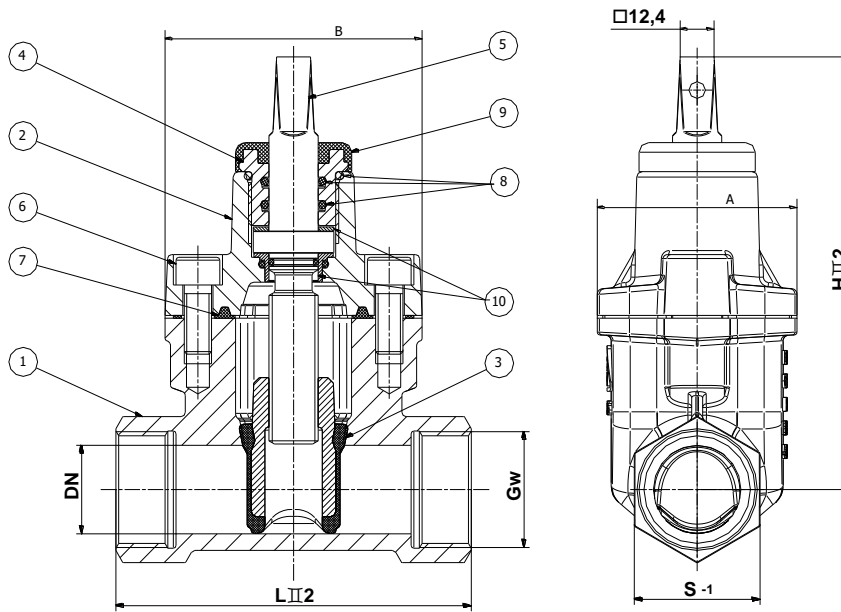

Fig. 1 – The construction of gate valve with threaded end
1.3. Construction and principle of operation (Fig.1, Tab.2)
The main parts of the gate valve with threaded end are shown on the fig.1.
- The gate valves with threaded end type UG-2Gw – with two internal threads (fig.1)